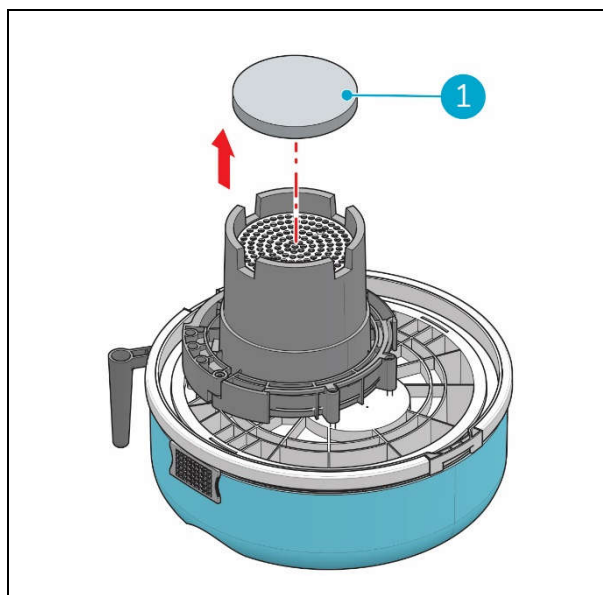

Figure 24
6. Take out the old silencer (fig 24, pos 1) from the top of the motor